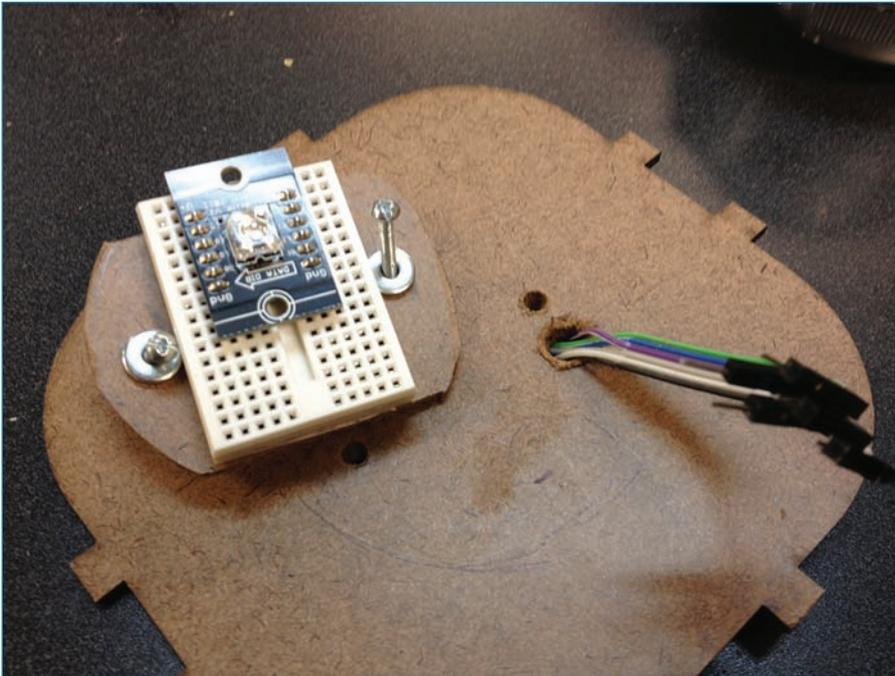

FIGURE 6.17 The ShiftBrite sits on a platform in the globe, using a mini breadboard to manage the wires.
- 2. Build the LED platform**—Next, add the LED assembly. I figured out how to attach the globe to the laser-cut box—see step 5. Basically, this involves a small panel that fits into the globe and is tensioned with a pair of screws (see Figure 6.17).
- 5. Attach the globe**—I used one from a yard light I bought at Home Depot (see Figure 6.18) and I've seen them at a lot of stores. I disassembled the light and set aside everything but the globe. To attach the globe, I drilled two screw holes in the top panel of the box, plus a larger hole for the wires. I used a small piece of wood that fits into the globe but also attaches to the top panel of the box, as shown previously in Figure 6.17. Tightening the bolts secures the globe to the top.